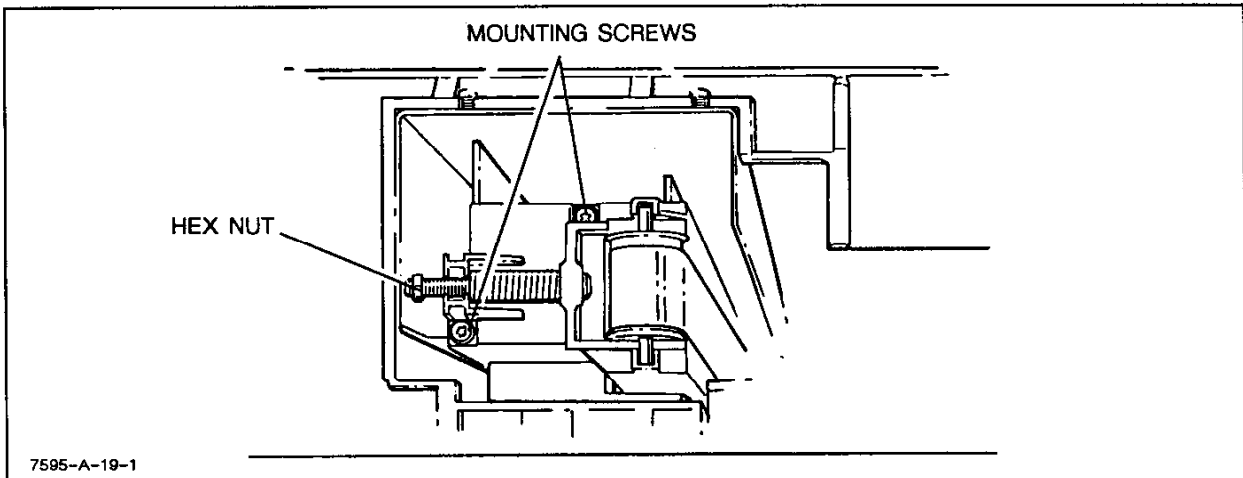

Figure 6-24. Pen Carriage Drive Belt Tensioner Assembly Removal
- d. Tighten the hex nut on the tensioning bolt until all tension is released from the pen carriage drive belt. See Figure 6-24.